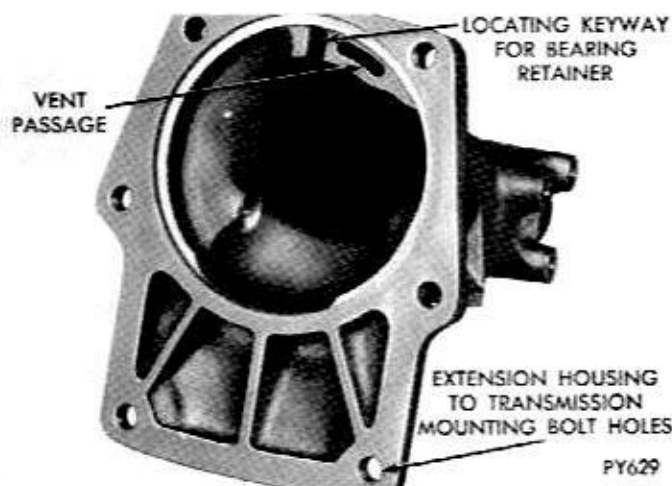

Fig. 33—Extension Housing—Front View
(30) Install extension housing and gasket now, to hold mainshaft and bearing retainer in place (Fig. 33). First, replace bushing and seal, if necessary.